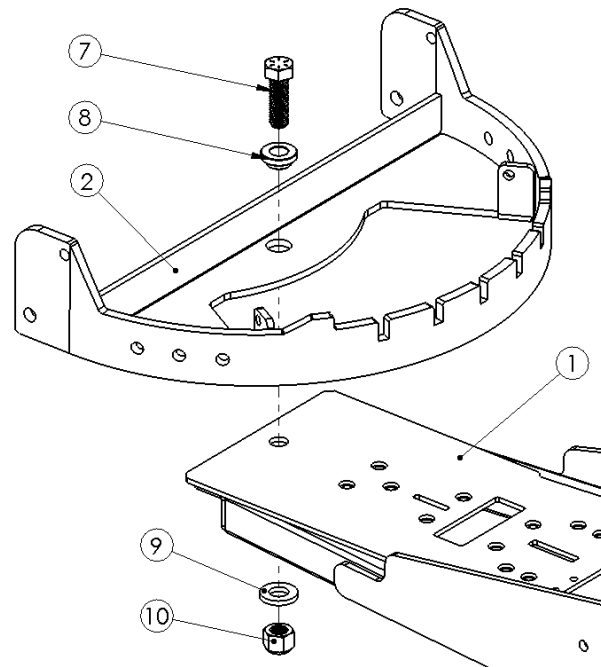

Figure 1
- 1) Attach the Swivel Plate to the Lift Arm using the 5/8" Hex Bolt, 5/8" Flat Washer, 5/8" Nylock Nut and Pivot Ring as shown **Figure 1**.